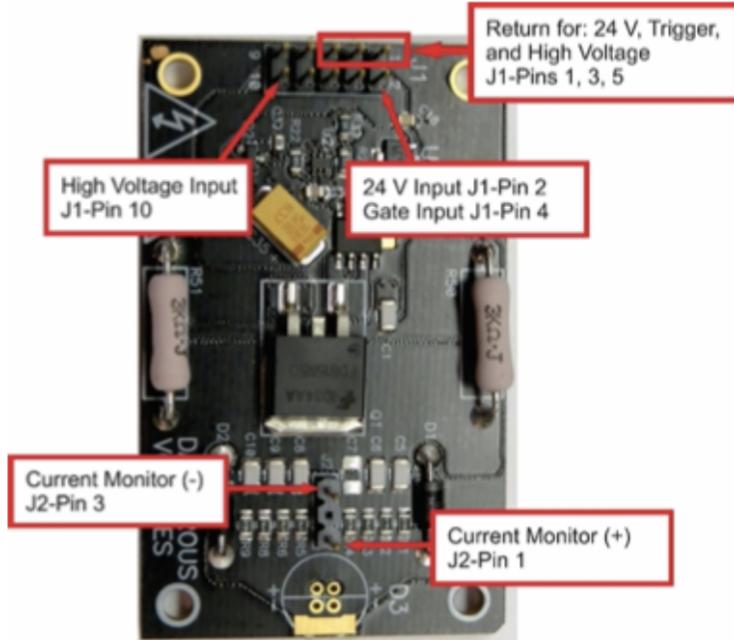

Figure 4: LDDM with labeled parts
- The *70V supply* is used for powering the LDDM. The module enables a pulse output that can be varied in length based on its supply voltage. Hence, a range is offered for this apparatus, which can be found in Appendix C and is approximately 64V-156V. The 70V power supply will have 20A-50A of current drawn from it. Refer to Figure 4 for the respective inputs.
- The *24V supply* is used to operate the LDDM. The power supply should be operated at no more than 250mV off of the nominal 24V suggestion. The 24V power supply will have approximately 10mA of current drawn from it. Both the high voltage and 24V inputs can be seen in Figure 4.